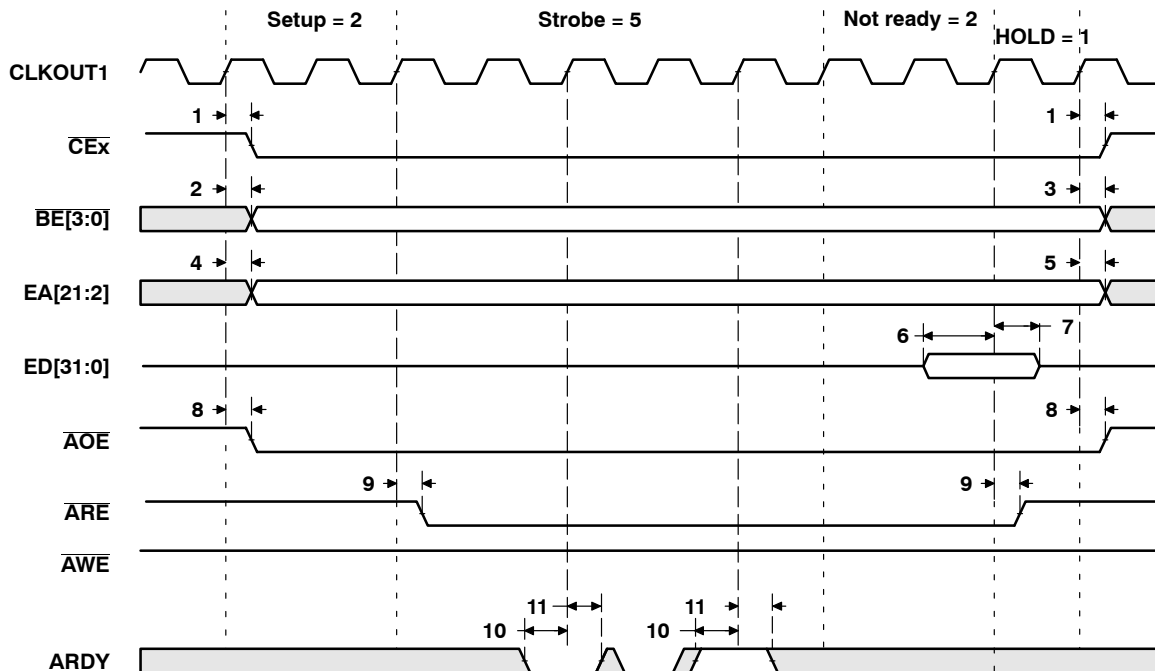
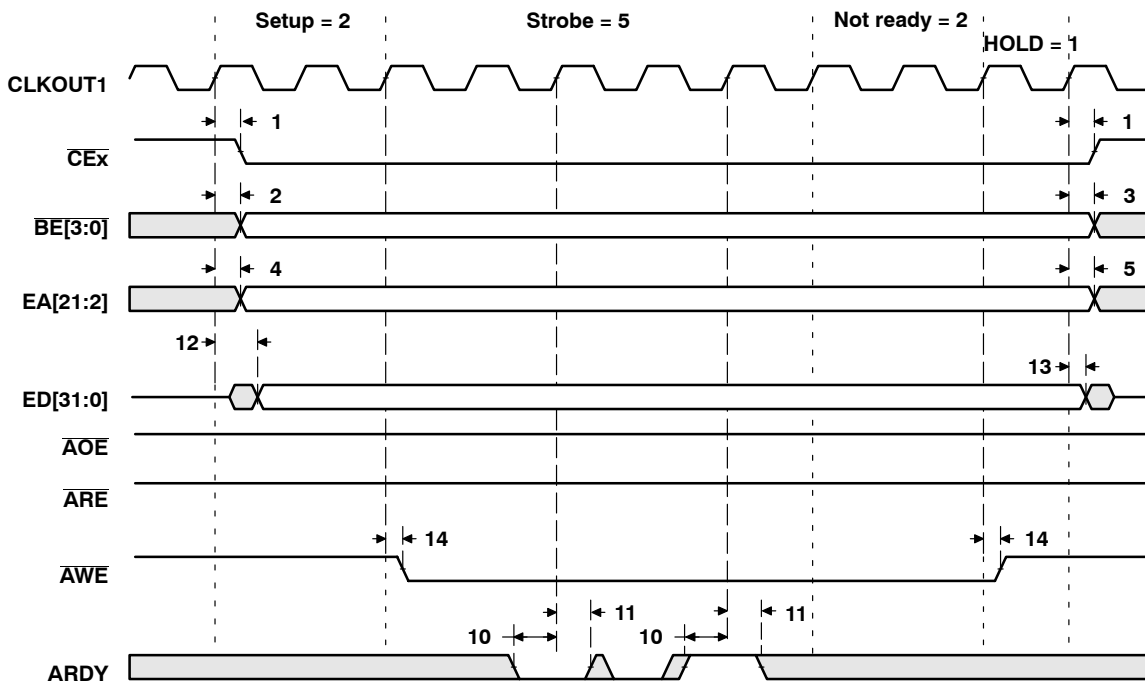

Figure 15. Asynchronous Memory Read Timing
Figure 16. Asynchronous Memory Write Timing
**timing requirements for asynchronous memory cycles† (see Figure 15 and Figure 16)**
**switching characteristics over recommended operating conditions for asynchronous memory cycles‡ (see Figure 15 and Figure 16)**